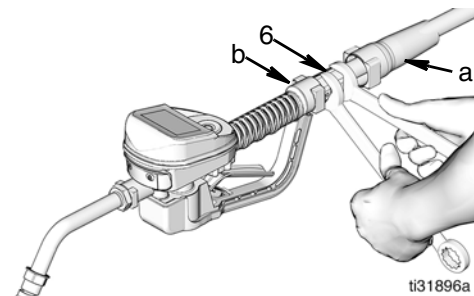

FIG. 18
2. Slide the swivel boot (a) back, over the hose, to access the swivel fitting (6) (FIG. 18). Using two wrenches working in opposite directions, disconnect swivel fitting (6) from hose fitting.